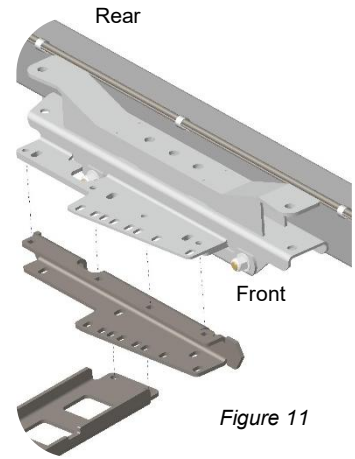

Figure 11
59. Install control arm mounting brackets to the frame (see figure 11 for front to rear orientation). Make sure mounting surface is flat and free of debris. Use the 1/2 x 1-1/2" flat head bolts from hardware kit 155. Use high strength threadlocker and tighten the bolts very tight.
61. The belly height in this kit is extremely adjustable. Anything from a flat belly to 3" drop can be achieved using a combination of spacer plates and spacer brackets (see figure 11, 12 and 13). Flat belly configuration will require a body lift or floor pan modification. Many late model transmissions will require a 2" drop bracket (see figure 11). *2" drop is still 1.5" higher than the stock belly height.* Hardware kit 120 contains the longer bolts needed for the drop spacers.